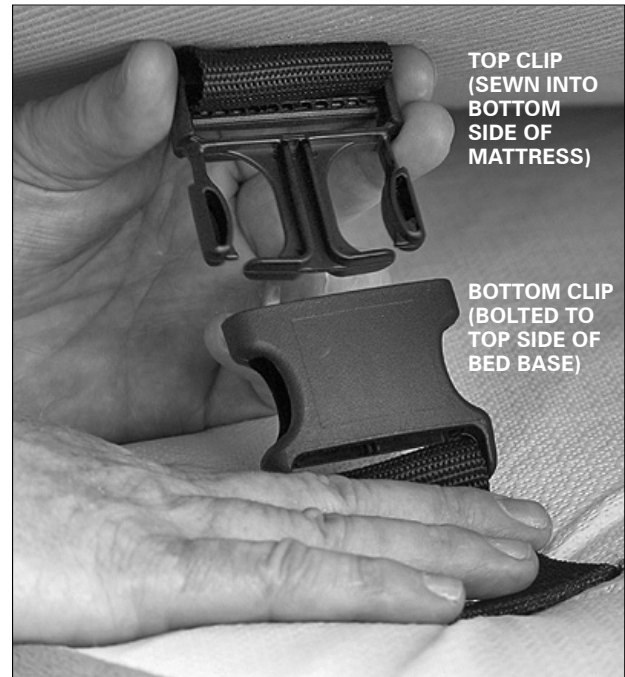

FIGURE 5: Clip Lock™ component location.
- b. The Clip Lock™ attachment system consists of two(2) interlocking clips located on the bottom side of the mattress and the top side of the bed base (FIGURE 5).